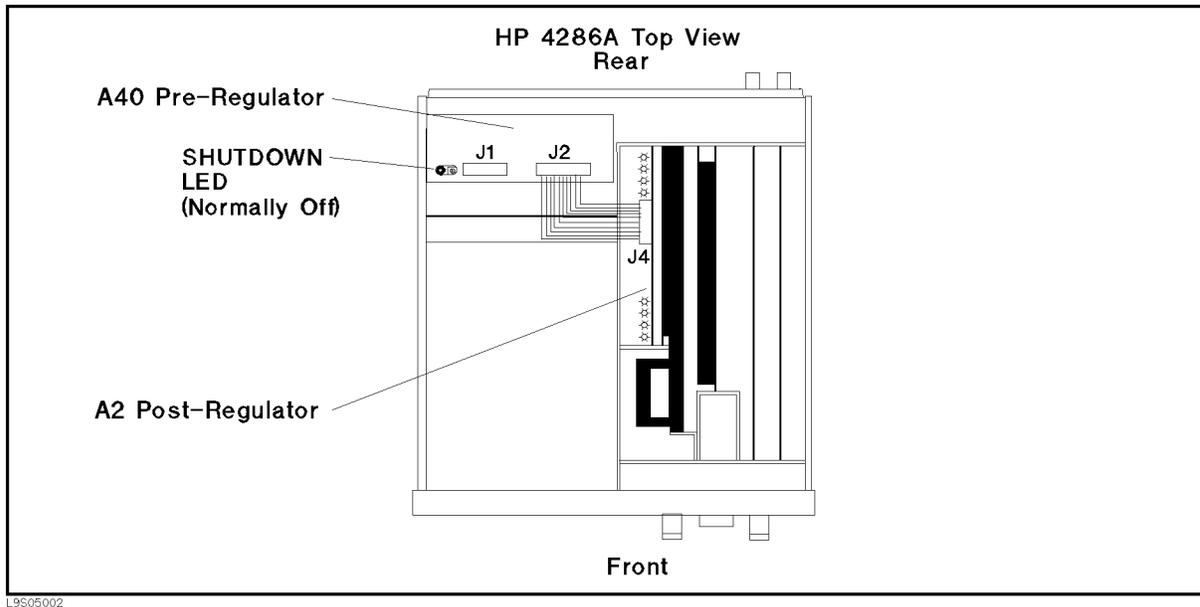

Figure 5-2. A40 SHUTDOWN LED Location
- d. Look at the A40 SHUTDOWN LED. The LED is normally off. The SHUTDOWN LED location on A40 pre-regulator is shown in Figure 5-2.
- d. Look at the A40 SHUTDOWN LED. The LED location is shown in Figure 5-2.